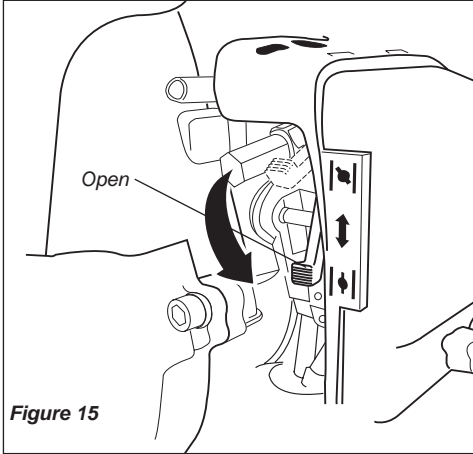

Figure 15
- When the engine starts, slowly move the choke lever to the "OPEN" position. See Figure 15. (If the engine stops after the initial start, close the choke and restart.)